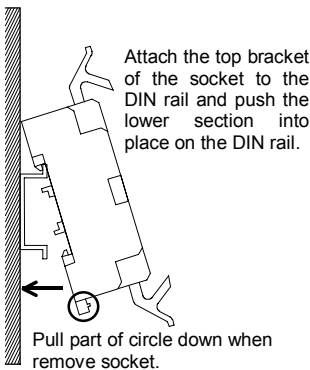

Fig. 1
1. Mounting the socket to the DIN rail. (Fig. 1)